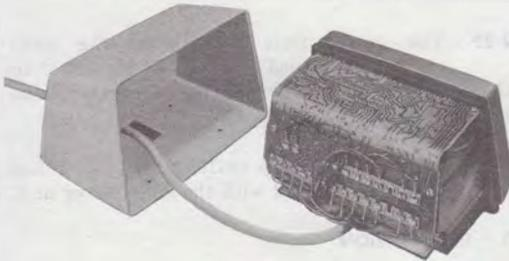

Fig. 4—Typical 108-Type Loudspeaker Set With Cover Removed
5.06 The plastic housing on the 108-type loudspeaker set is held in place by two screws located on the bottom of the set. To remove the plastic housing, remove the two screws from the bottom of the set and slide the cover off the chassis (Fig. 4).